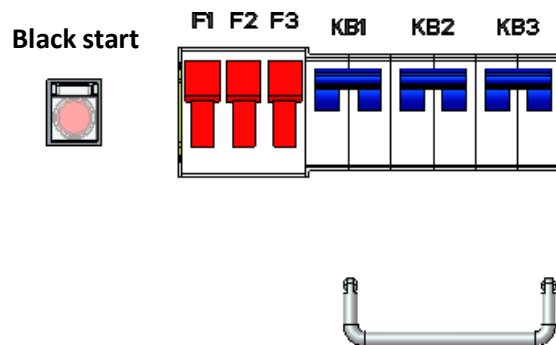

Figure 7-2 Black Start and internal MCB
(4) Open the cabinet door, close KB1, KB2 and KB3, press and hold the "Black Start" red button for 3 seconds as shown in Figure 7-2, wait for about 30 seconds, the battery voltage data will be displayed on the monitoring interface (if the monitoring is running) After the battery voltage data has been displayed, there is no need to press the "Black Start" red button). (If there is power on the AC side, that is, the diesel generator is running or the mains is input, the battery voltage data can be displayed on the monitor without pressing the "Black Start" red button).
- (5) Take MGH-500KW as an example, check whether there is a red alarm signal in the upperright corner of the monitor, and it can be turned on if there is no red alarm signal.